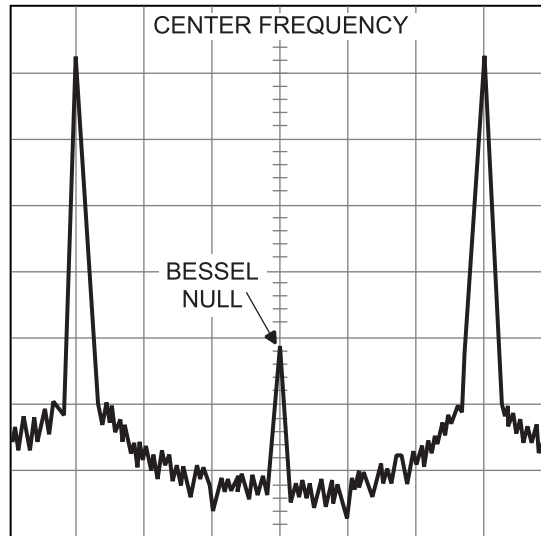

Figure 4-15. Typical Spectrum Analyzer Display of a Bessel Null on an FM Waveform
- e. While observing the first Bessel null (Figure 4-15 on page 4-30) on the Spectrum Analyzer display, adjust the value of the DAC's setting to reduce the carrier level as low as possible.
Note Figure 4-15 is for example only. During the calibrations the above picture is not viewed because the settings on the spectrum analyzer zoom into the Bessel Null's peak.
- e. While observing the first Bessel null (Figure 4-15) on the Spectrum Analyzer display, adjust the value of the DAC's setting to reduce the carrier level as low as possible.